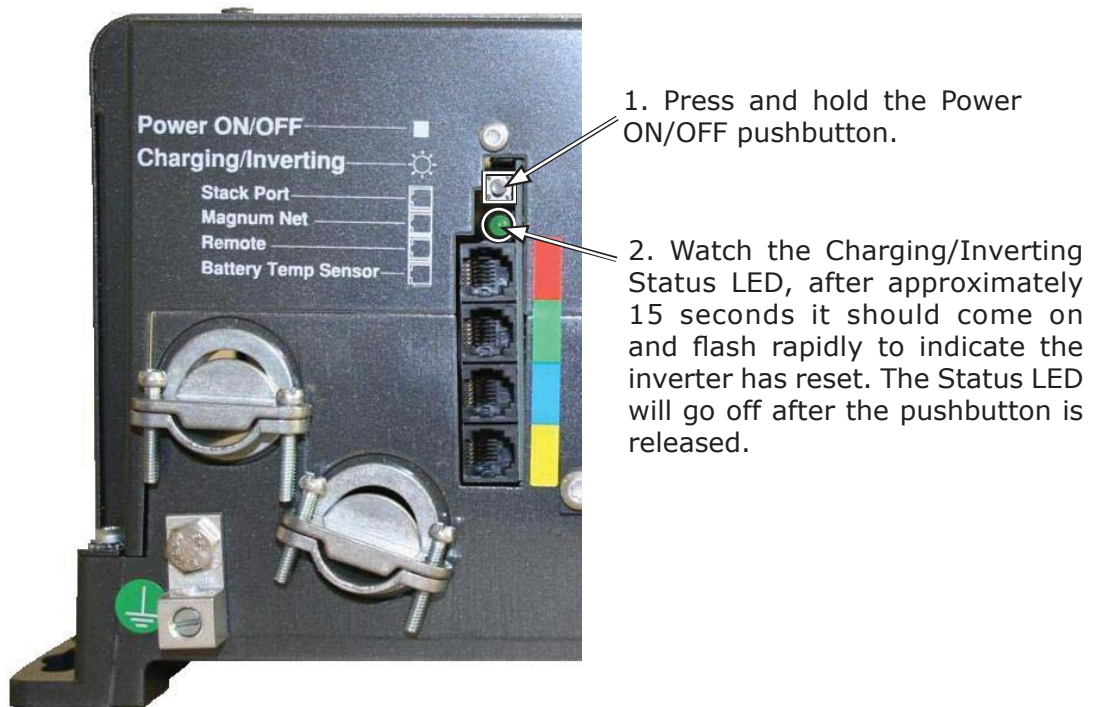

Figure 4-1, Performing an Inverter Reset
Press and hold the Power ON/OFF pushbutton (see Figure 4-1) for approximately fifteen (15) seconds until the Charging/Inverting Status LED comes on and flashes rapidly; once the rapid flashing has begun, release the Power ON/OFF pushbutton. The Status LED will go off after the pushbutton is released.